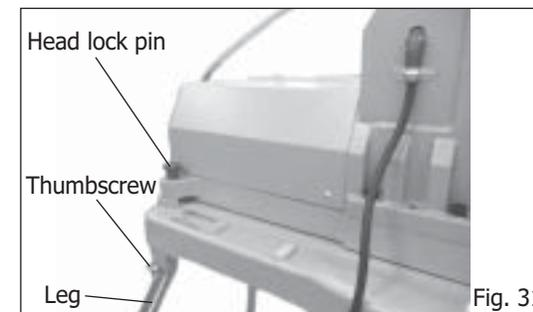

Fig. 31
- 1) Locking the head (Fig. 31 )